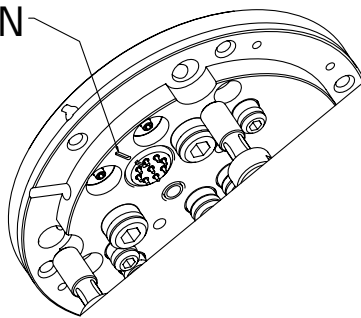

Figure 13: Disassembly of Intermediate Applicator Housing
10. Loosen the two (2) screws [3] on the shroud halves. Carefully pry the shroud halves [4 and 5] apart by placing a thin blade screw driver in between them.
11. Loosen one end of the coiled fluid tube [13] by removing the nut [6] and ferrules [7 and 8] from the valve manifold [5] (see Figure 13).
13. Remove the six (6) screws [17] and the four (4) screws [14] from the bottom of the mounting plate [4] (see Figure 13). Inspect the four (4) o-rings [15] located within the screws [14] and replace if necessary.
14. Carefully pull upward on the head manifold block [22] which will disengage from the bottom valve assembly block [5]. Inspect o-rings [2] on the ends of the connecting rods [1]. Replace if necessary (see Figure 13).
15. Remove the four (4) connecting rods [1] by unscrewing counter-clockwise. Remove and inspect the four (4) studs [3] and the o-rings [2] and replace if necessary.
18. Reassemble in reverse order making sure to align the cascade wire plug timing mark with the timing mark on the mounting plate [4] as shown in Figure 13. Tighten set screw [23].
**INTERMEDIATE APPLICATOR HOUSING - PARTS LIST (Figure 13)**